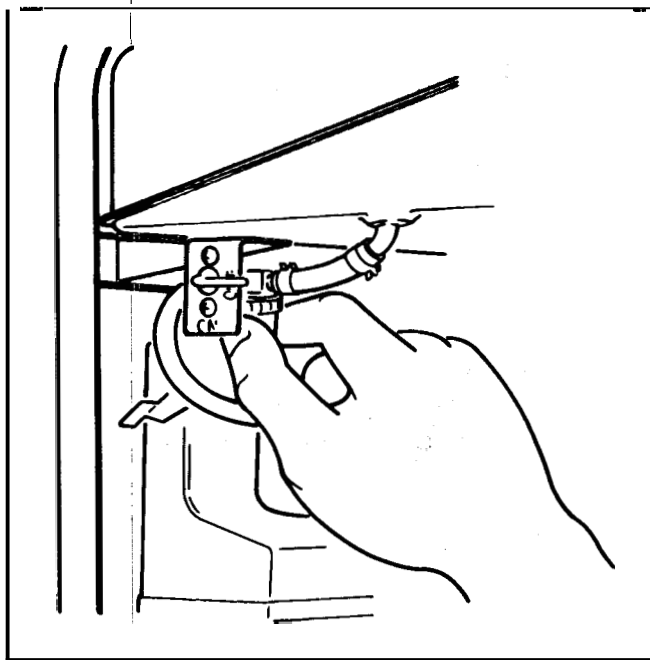

Figure 26
2. Remove the sediment bowl by unscrewing the collar around the bowl. See Figure 26.